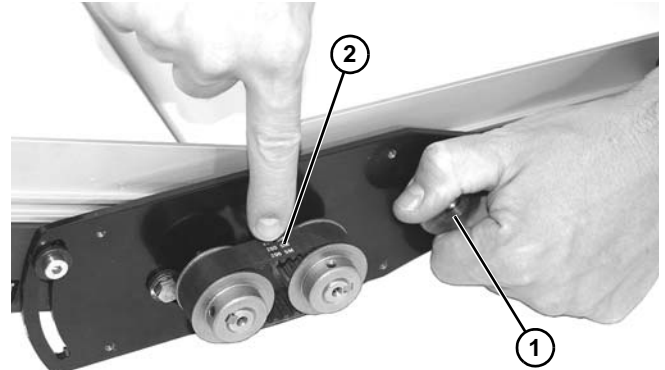

Figure 81
- Rotate cam knob (**Figure 81, item 1**) to obtain 1/8 - 1/4" belt deflection at center of belt (**Figure 81, item 2**) with approximately 3-5 in-lb of pressure.